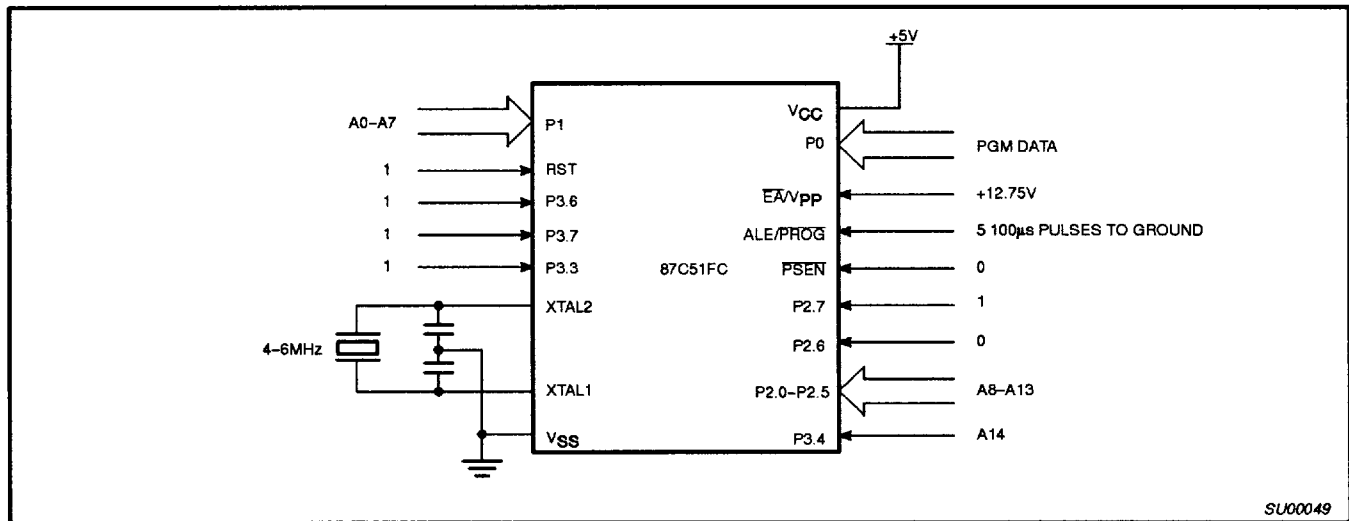
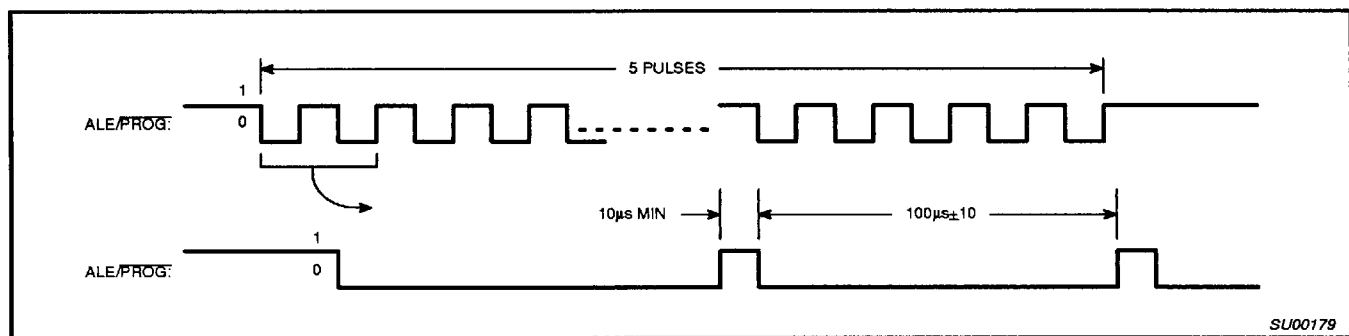

Figure 16. Programming Configuration
Figure 17. PROG Waveform
Table 3 shows the logic levels for reading the signature byte, and for programming the program memory, the encryption table, and the security bits. The circuit configuration and waveforms for quick-pulse programming are shown in Figures 16 and 17. Figure 19 shows the circuit configuration for normal program memory verification.
The setup for microcontroller quick-pulse programming is shown in Figure 16. Note that the 87C51FC is running with a 4 to 6MHz oscillator. The reason the oscillator needs to be running is that the device is executing internal address and program data transfers.
The address of the EPROM location to be programmed is applied to ports 1 and 2, as shown in Figure 16. The code byte to be programmed into that location is applied to port 0. RST, PSEN and pins of ports 2 and 3 specified in Table 3 are held at the 'Program Code Data' levels indicated in Table 3. The ALE/PROG is pulsed low 25 times as shown in Figure 17.
- \* FOR PROGRAMMING VERIFICATION SEE FIGURE 16.